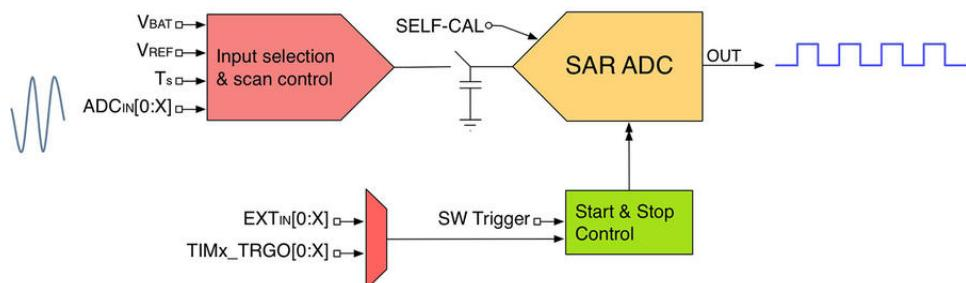
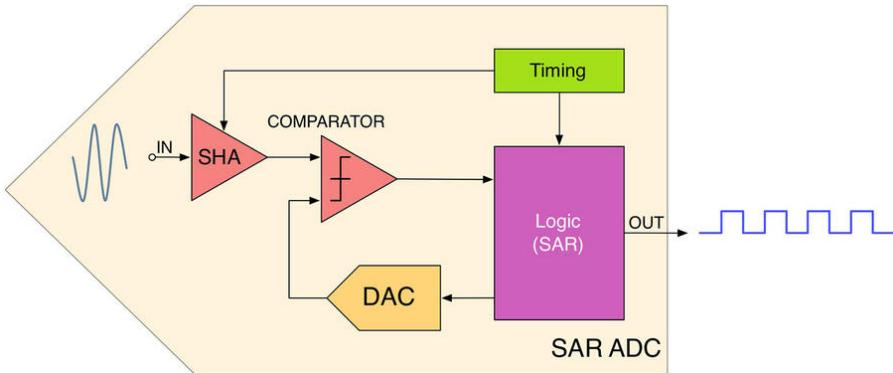
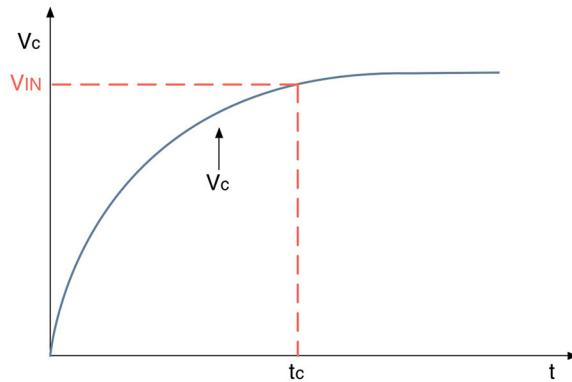

Figure 1: The simplified structure of an ADC
Figure 2: The internal structure of a SAR ADC
Figure 4: The effect of the ADC resistance on the analog signal source
Figure 1 schematizes the structure of the ADC2. An *input selection and scan control unit* performs the selection of the input source to the ADC. Depending on the conversion mode (single, scan or
2Figure 1 is a really simplified representation of the ADC. Since the ADC implementation can differ a lot among the several STM32 families, here we are going to consider a simplified view that clearly describes how the ADC unit is designed.
**Figure 1** also shows another important part of the ADC: the *start and stop control* unit. Its role is to control the A/D conversion process, and it can be triggered by software or by a variable number of input sources. Moreover, it is internally connected to the TRGO line of some timers so that time-driven conversions can be automatically performed in DMA mode. We will analyze this important mode of the ADC peripheral later.
**Figure 2** shows the main blocks forming the SAR ADC unit shown in **Figure 1**. The input signal goes through the SHA unit. As you can see in **Figure 1**, a switch and a capacitor are in series with the ADC input. That part represents the *Sample-and-Hold* (SHA) unit shown in **Figure 2**, which is a feature available in all ADCs. This unit plays the important role to keep the input signal constant during the conversion cycle. Thanks to an internal timing unit, which is regulated by a configurable clock as we will see later, the SAR constantly connects/disconnects the input source by closing/opening the “switch” in **Figure 1**. To keep the voltage level of the input constant, the SHA is implemented with a network of capacitors: this ensure that source signal is kept at a certain level during the A/D conversion, which is a procedure that requires a given amount of time, depending on the conversion frequency chosen.
The charging of the internal capacitor network (that we indicate with  $C_{ADC}$ ) is controlled by the switch in **Figure 1** having a resistance equal to  $R_{ADC}$ . With the addition of source resistance (that is,  $R_{TOT} = R_{ADC} + R_{IN}$ ), the time required to fully charge the hold capacitor increases. **Figure 4** shows the analog signal source resistance effect. The effective charging of  $C_{ADC}$  is governed by  $R_{TOT}$ , so the charging time constant becomes  $t_C = (R_{ADC} + R_{IN}) \times C_{ADC}$ . If the sampling time is less than the time required to fully charge the  $C_{ADC}$  through  $R_{TOT}$  ( $t_S < t_C$ ), the digital value converted by the ADC is less than the actual value. In general, it is necessary to wait a multiple of  $t_C$  to achieve a reasonable accuracy.
- **ClockPrescaler**: defines the speed of the clock (ADCCLK) for the analog circuitry part of ADC. In the previous paragraph we have seen that the ADC has an internal timing unit that controls the switching frequency of the input switch (see **Figure 2**). The ADCCLK establishes the speed of this timing unit and it impacts on the number of samples per seconds, because it defines the amount of time used by each conversion cycle. This clock is generated from the peripheral clock divided by a programmable prescaler that allows the ADC to work at  $f_{PCLK}/2, 4, 6$  or  $/8$  (refer to the datasheets of the specific MCU for the maximum values of ADCCLK and its prescaler). In some STM32 MCUs the ADCCLK can also be derived from the HSI oscillator. The value of this field affects the ADCCLK speed of all ADCs implemented in the MCU.